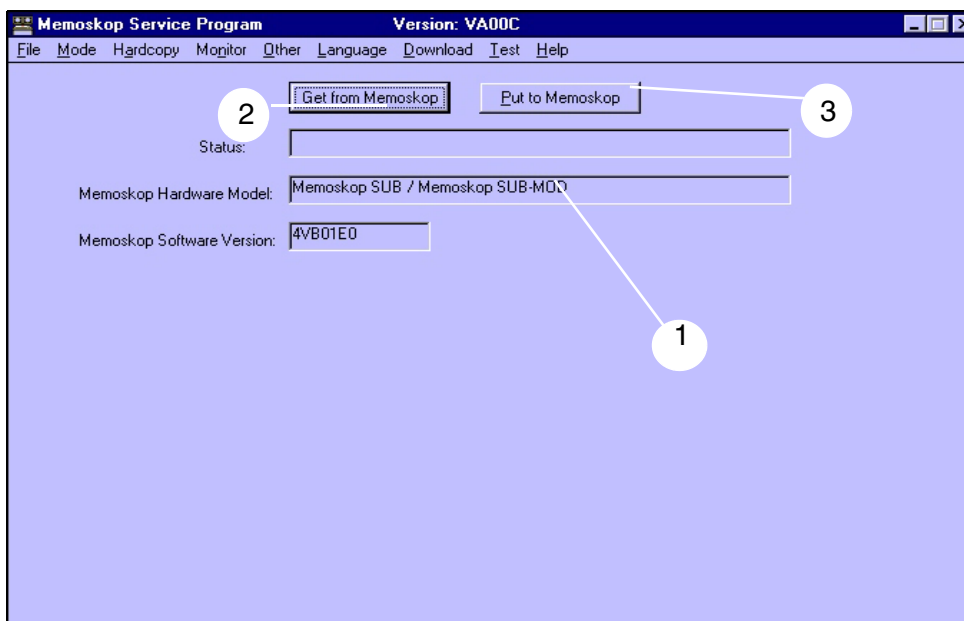

Fig. 3
- The "Memoskop Service Program" program window (Fig. 3) is displayed.
- Insert the software disk matching the installed Memoskop version (1/ Fig. 3) in drive A (MEMOSKOP software).